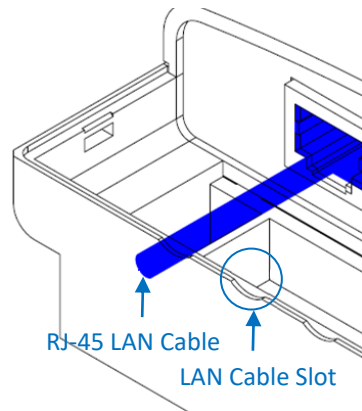

Figure 19. Install LAN cable
Step 8. Connect LAN cable and place the LAN cable on the corresponding cable slot as shown in Figure 19.